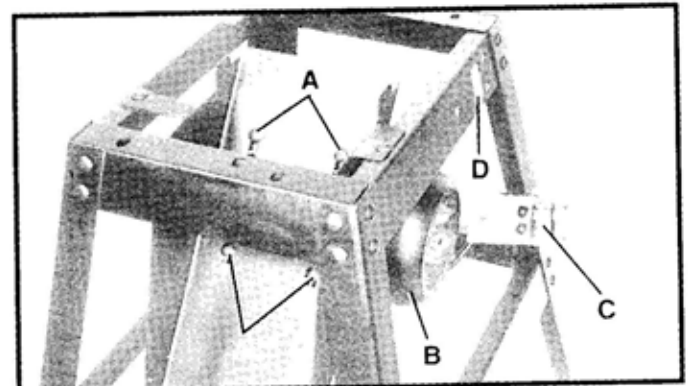
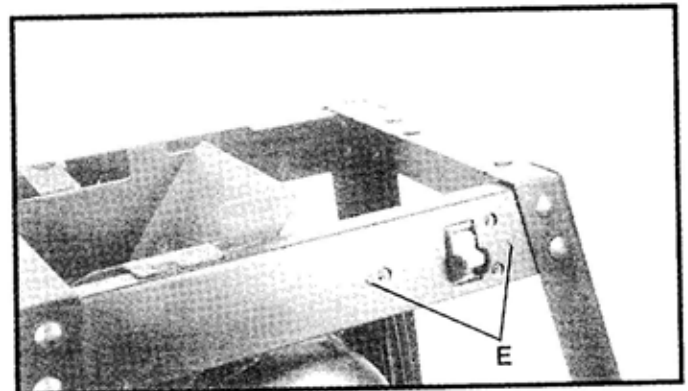

Fig. 7
Fig. 8
1. The motor (B) Fig. 7, is assembled to the bottom of the dust chute using the four 1-1/4" long carriage bolts (A), flat washers, lockwashers and hex nuts as shown. Do not completely tighten hex nuts at this time as the motor must be adjusted for proper alignment and belt tension later.
2. Assemble the switch (C) Fig. 7, to the inside of switch opening (D) using the two 3/8" long screws (E) Fig. 8, and flat washers as shown.